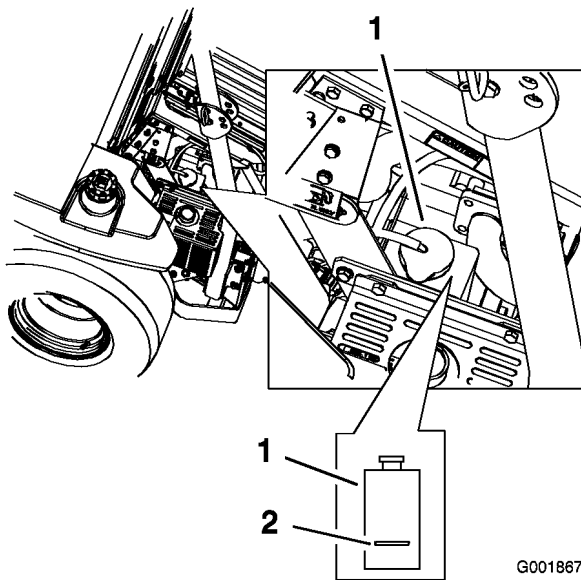

Figure 57
3. With the engine cool, check the overflow bottle level. The fluid needs to be up to the bump on the outside of the overflow bottle (Figure 57).
4. If the coolant level is low, add a 50/50 mix of extended life antifreeze/Dex-Cool® and water to the overflow bottle (Figure 57).
5. Add the 50/50 coolant mix to the overflow bottle and fill it to the indicator line on the bottle (Figure 57).